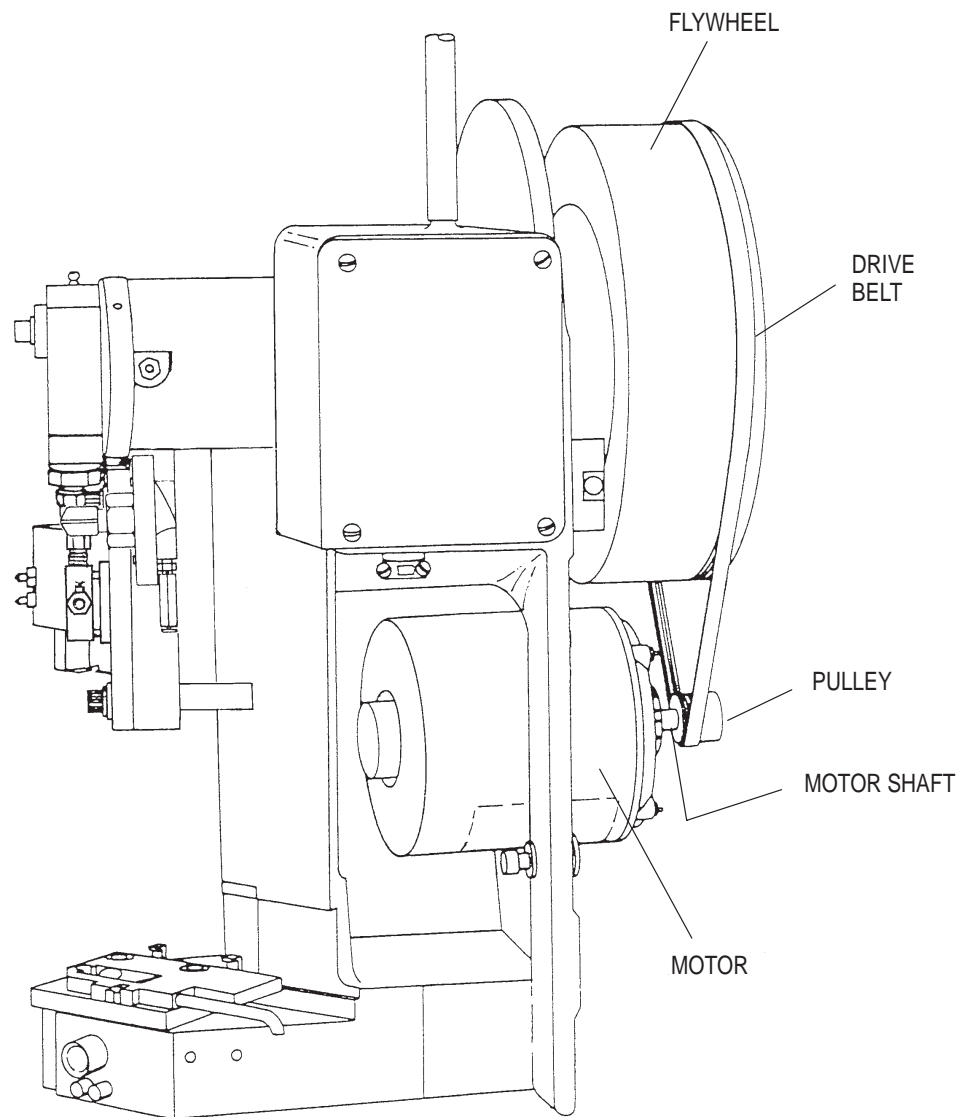

Figure 5-2. Drive Belt Tension
5.3. Drive Belt Tension and Alignment (Figure 5-2)**DANGER**